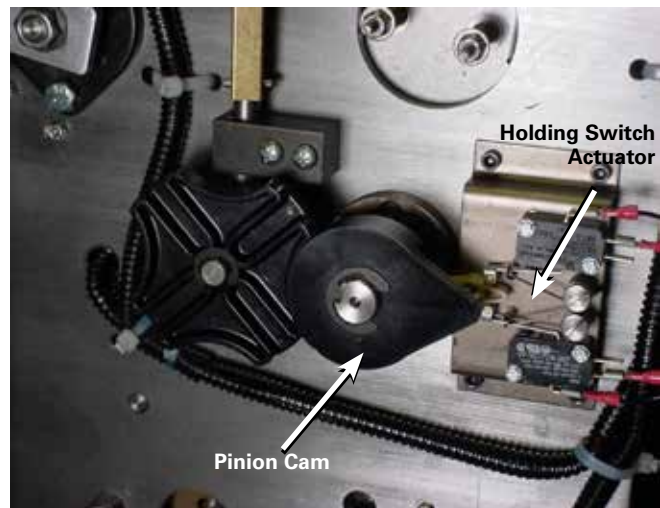

Figure 85. Neutral position for position indicator pinion cam and holding switch.
- C. The pinion cam is pointing to the right over the holding switch actuator. See Figure 85.